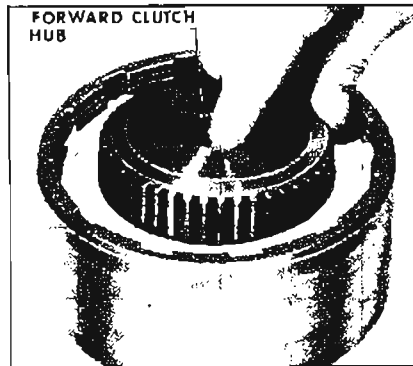

Figure 5-212
4. Lift forward clutch hub from clutch pack. See Figure 5-212.